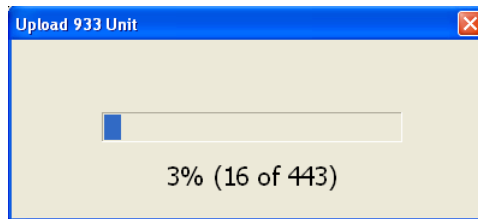

Figure B.3: Uploader Progress Window
- Click the Upload button (blue with a white UP arrow) and the file will transfer to the 933A. The uploader will start by erasing flash in the 933A, and indicated by the progress screen. After flash has been erased, the program should indicate the progress of the upload with a progress bar as seen in Figure B.3.